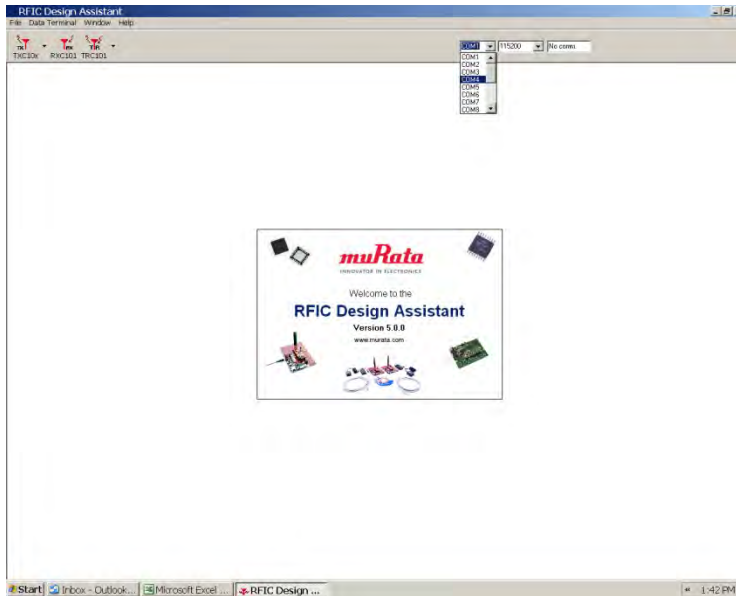

Figure 7 - Starting RFIC Design Assistant
4. Start the RFIC Design Assistant utility program as shown in Figure 7. Select the COM port or virtual COM port assigned to the board set from the drop-down menu at the top of the utility program screen. The COM port can be determined from Windows® as follows: Start > Settings > Control Panel > System > Hardware > Device Manager > Ports (COM & LPT).